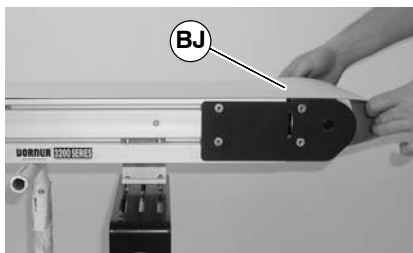

Figure 34
14. Remove belt (BJ of Figure 34) from conveyor.